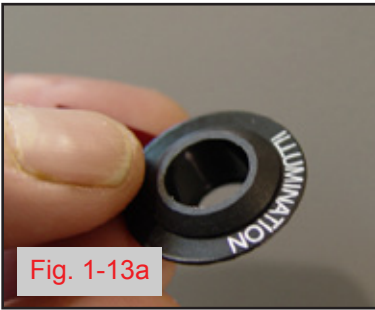

Fig. 1-13a
- c. Insert switch bezel into switch plate. (Fig. 1-13a)